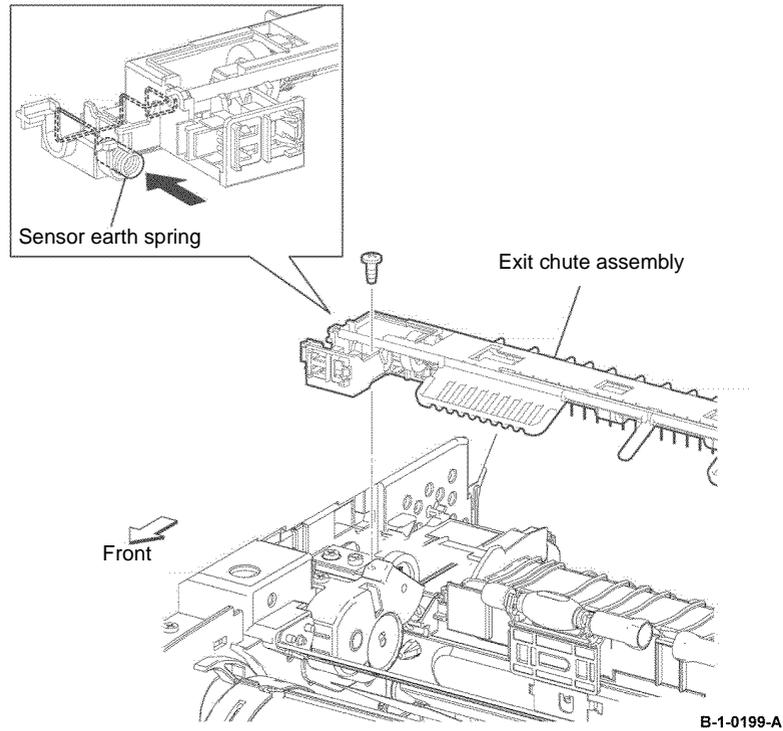

Figure 3 Exit chute assembly installation
2. When installing the exit chute assembly, ensure the end of the sensor earth spring is in contact with the plate on the frame, Figure 3.